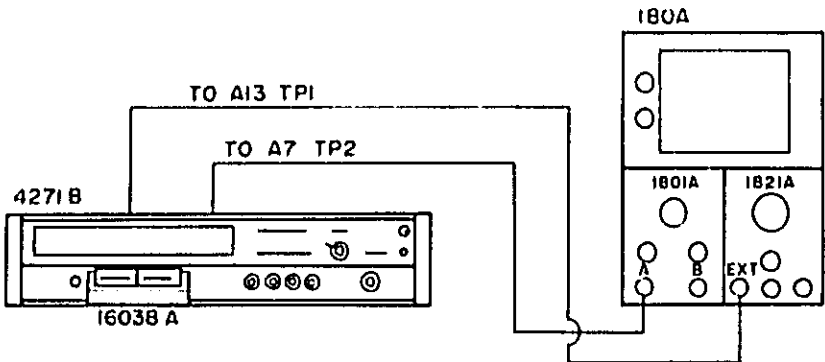

Figure 5-8. Reference Phase Adjustment.
- a. Connect as shown in Figure 5-8.